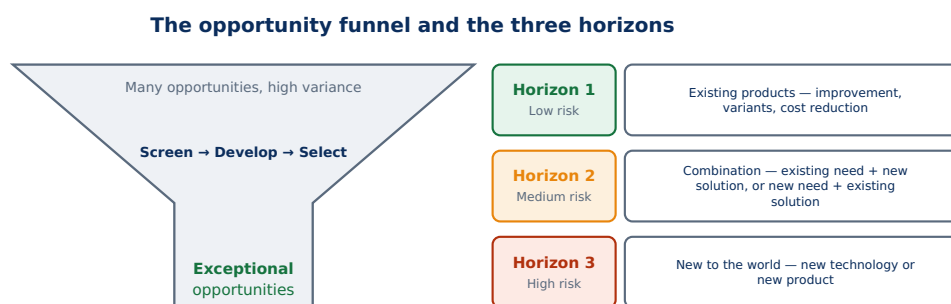

Fig 2.5 — The opportunity funnel and the three horizons
- Draw the **opportunity funnel** (Fig 2.5) — many opportunities in, high variance, high quality out.